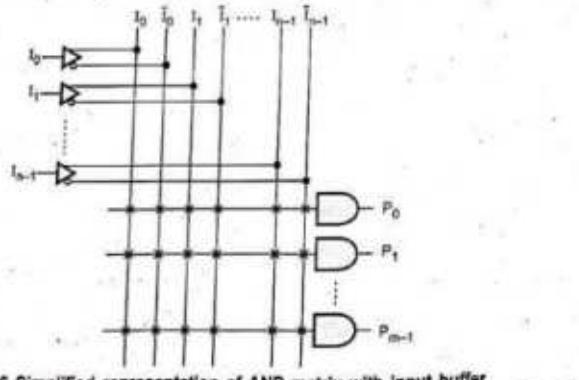

Fig. 7.12.6 Simplified representation of AND matrix with input buffer
- Fig. 7.12.6 shows the simplified representation of AND matrix with input buffer.